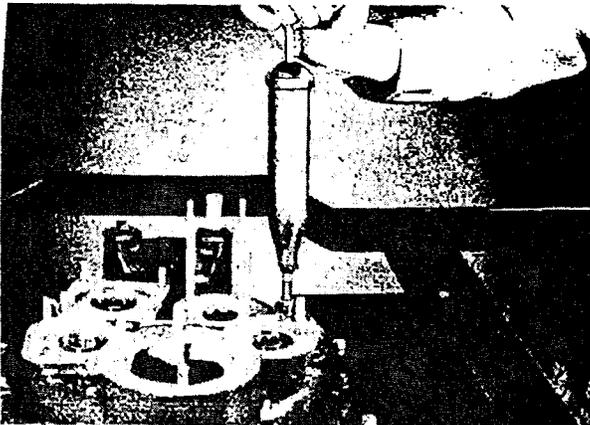

Figure 38 - Priming Crankshaft with Oil
g. Rotate crankshaft to distribute oil in master rod bearing assembly. Refer to Figure 38.